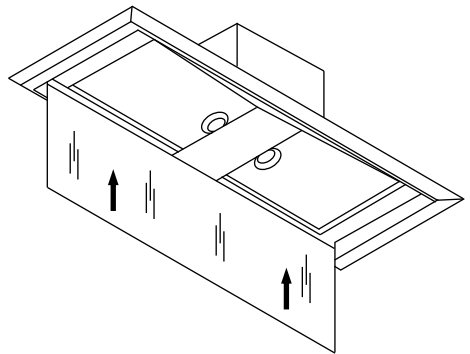

Fig 6
4. Re-insert the grease filters into the hood (Fig 6).